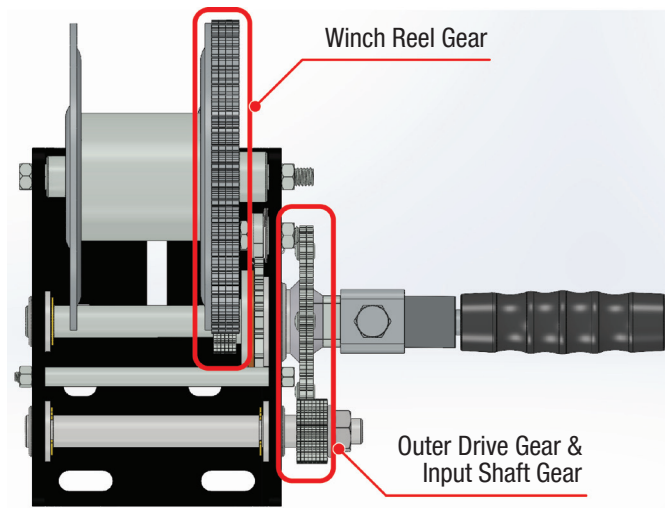

Figure 8-2: Grease Application
3. Annually, or more often if needed, apply a consistent layer of PC Peerless OG2 grease to the gear teeth of the winch reel gear, outer drive gear, and input shaft gear (see Figure 8-2). **IMPORTANT:** If you are consistently operating the lift at or near maximum capacities, apply grease to winch gears more often. Keeping the winch gear properly greased will prolong the life of the winch.
4. Annually, or more often if needed, apply a consistent layer of PC Peerless OG2 grease to the gear teeth of the winch reel gear, outer drive gear, and input shaft gear (see Figure 8-2). **IMPORTANT:** If you are consistently operating the lift at or near maximum capacities, apply grease to winch gears more often. Keeping the winch gear properly greased will prolong the life of the winch.